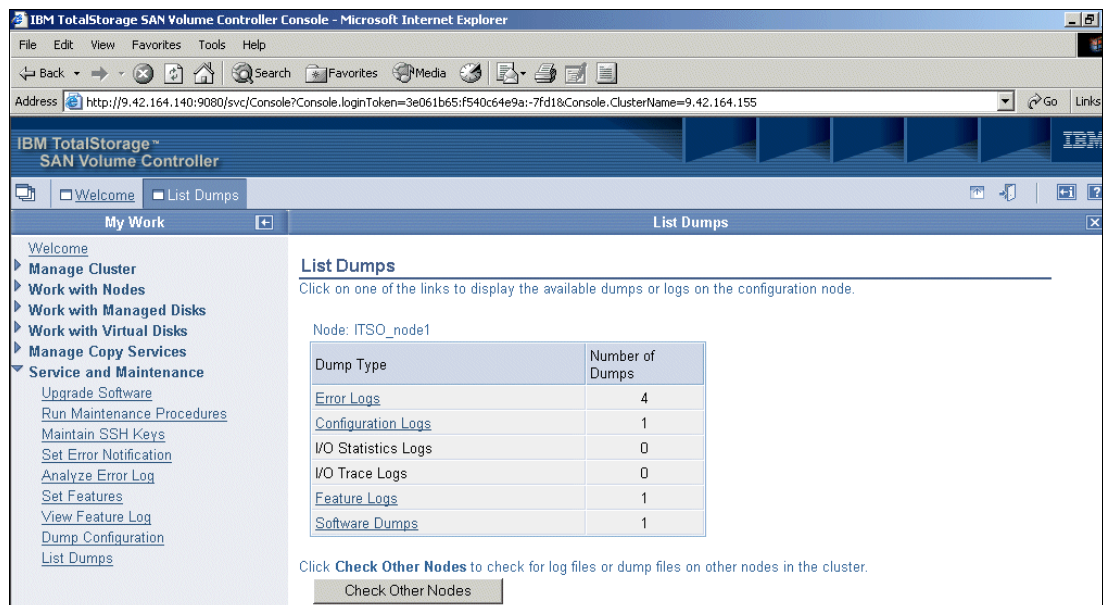

Figure 9-96 List Dumps
2. On the List Dumps panel (Figure 9-96), you see several dumps and log files that were generated over time on our cluster. They include the configuration dump we generated in the previous section. Click any of the available links (the underlined text in the table under the List Dumps heading) to go to another panel that displays the available dumps.